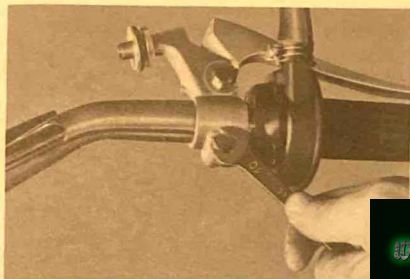

Fig. 29
14. Tighten the brake and clutch lever holder 0.24 in. (6 mm) hex head bolts. (Fig. 29)